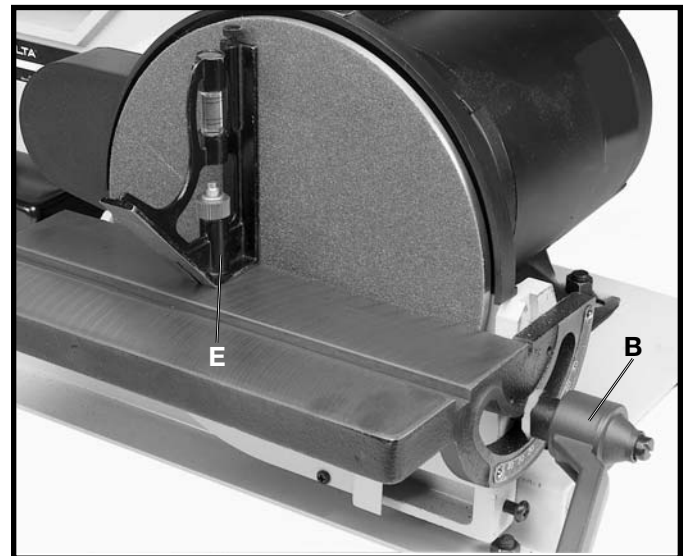

Fig. 29
To check and see if the table is at 90 degrees to the sanding disc, place a square (E) Fig. 29, on the table with one end of the square against the sanding disc, as shown. If an adjustment is necessary, loosen lock lever (B), move table until you are certain it is at 90 degrees to the sanding disc and tighten lock lever (B).